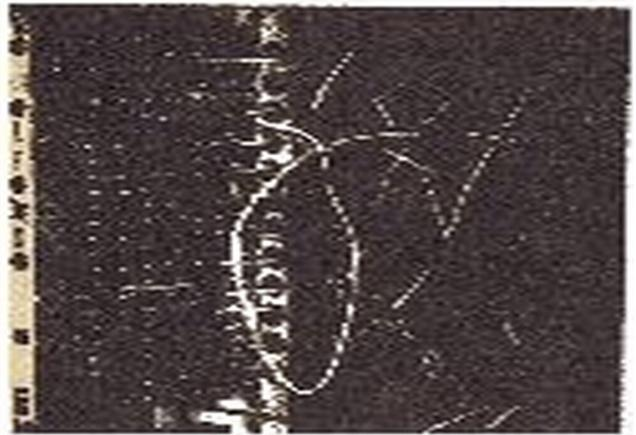

Figure 11. When a Jumper Cannot Be Tied Down at the Time It is Run, It is Tied in the Wood.
6.06 The workman on the vertical side should, when possible, tie down all jumpers as he receives them. If jumpers cannot be tied down at the time they are run, tie them in the wood; pull the loose ends out for easy visibility, as illustrated in Figure 11, except when jumpers are "hold sheet" items. In such cases, tie the jumpers in the wood and tuck the loose ends back into existing jumpers. (The workman should be able to look down the frame and easily detect the jumpers to be tied down and the tails of jumpers to be cleaned off.)